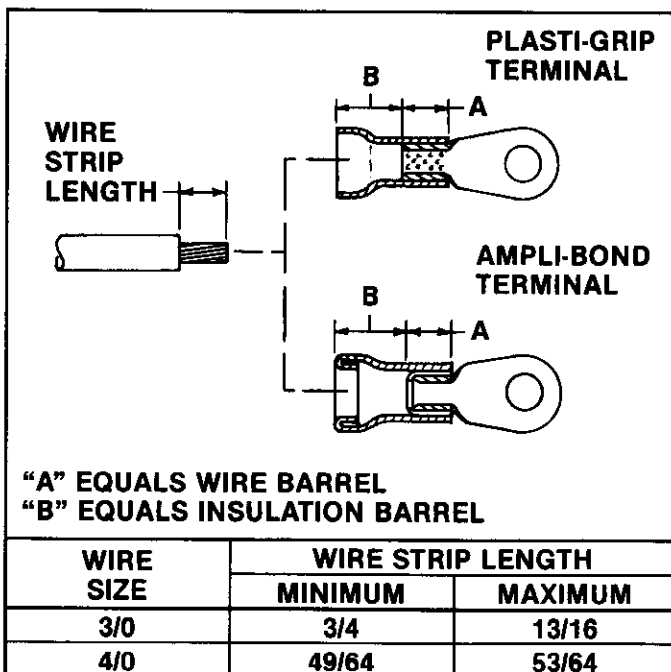

Fig. I-3
3. Strip wire to dimension indicated in Figure I-3.